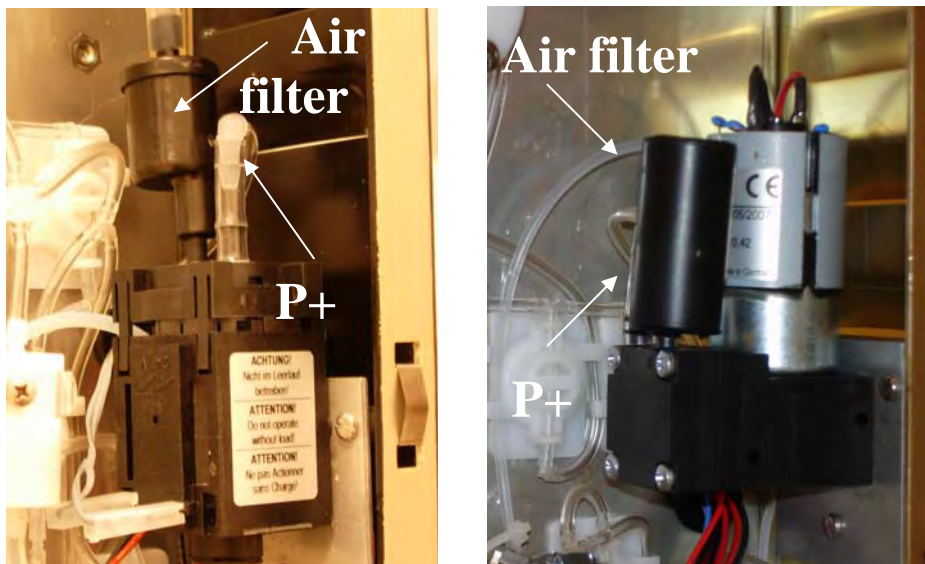

Figure 6.1
1. Locate the air pressure pump (P+) and connection tube marked as P+ in Figure 6.1 below.